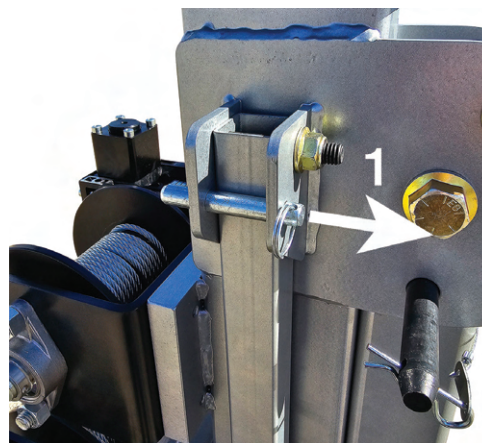

Figure 7-14a: Removing Outrigger Spring Pins
2. Extend guy wire outriggers. Do this by removing spring pins from the outrigger pivot brackets (1) and swing outriggers up to the horizontal position (2). Place the pins back into outrigger pivot brackets to support outriggers in the horizontal position (3). See Figures 7-14a and 7-14b.